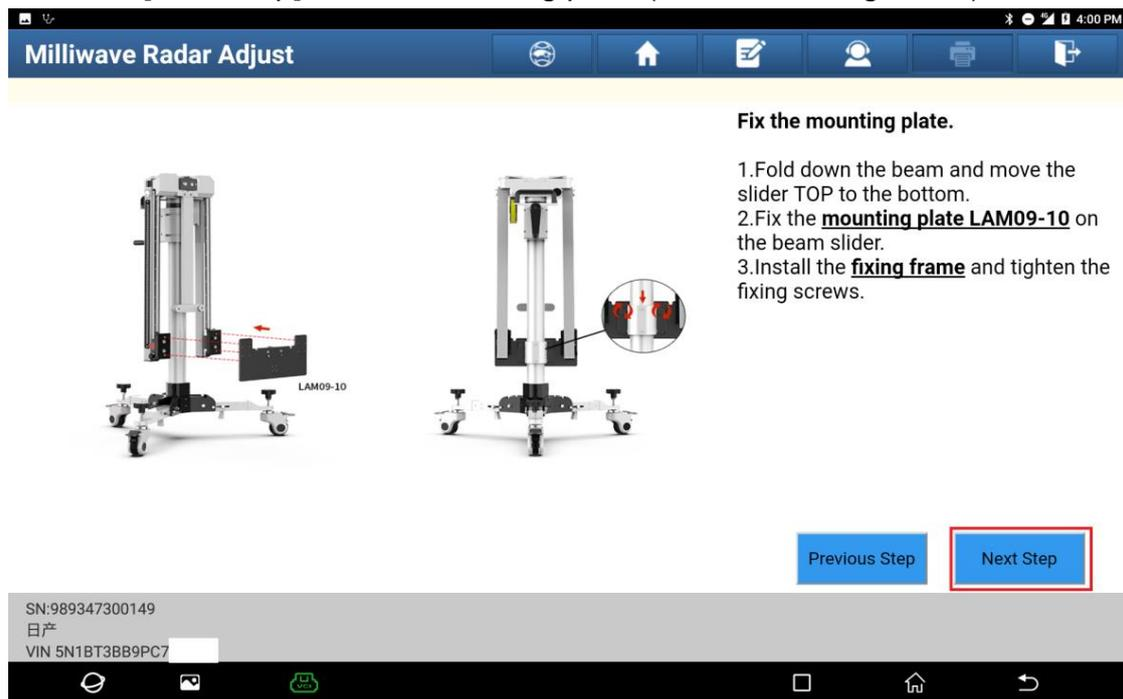

Figure 10
10. Click [Next Step]. Fix the mounting plate (as shown in Figure 10).